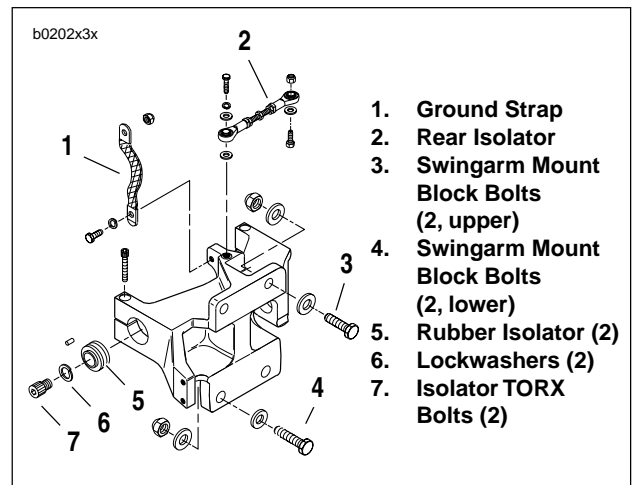
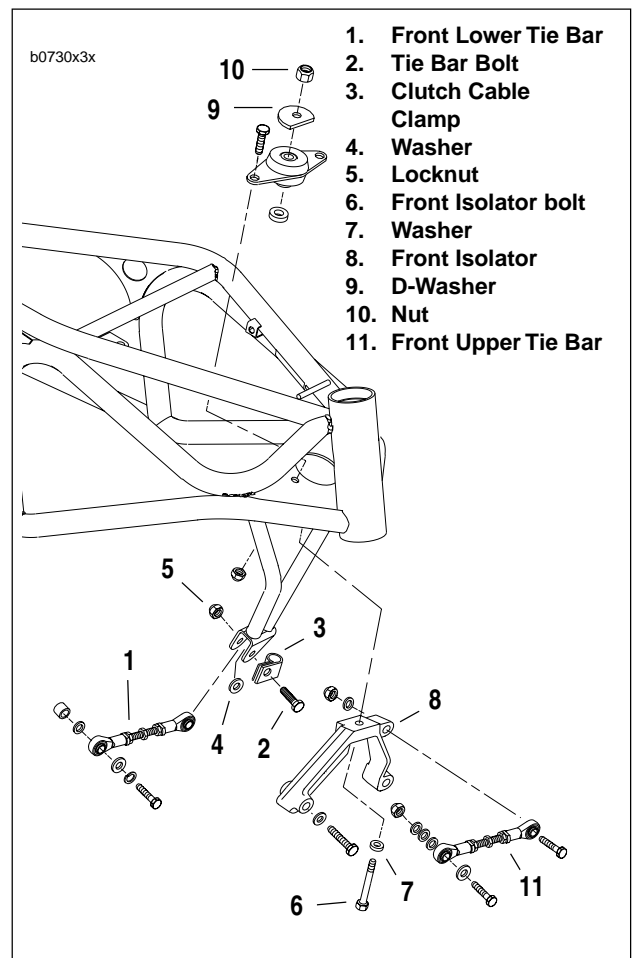

Figure 3-3. Rear Tie Bar Assembly
Figure 3-4. Front Tie Bar Assembly
16. See Figure 3-3. Remove engine ground strap (1) from swingarm mount block.
- b. See Figure 3-4. Detach front tie bar (1) and clutch cable clamp (3). Remove tie bar bolt (2), clutch cable clamp (3), washer (4) and locknut (5).
- c. Remove washer and nut to detach front upper tie bar (11) from isolator (8).
18. Detach front isolator (8). Remove front isolator bolt (6), nut (10), D-washer (9) and washer (7).
19. See Figure 3-3. Remove isolator bolt (7) and lockwasher (6) on each side.
20. Slowly raise floor hoist until rubber isolators (5) can be removed. Frame will rise while engine remains secured to lift by crating strap.
2. See Figure 3-3. If removed, attach swingarm mount block to engine. Install upper bolts (3), washers and locknuts finger tight. Install lower bolts (4), washers and locknuts finger tight. Tighten upper bolts to 41-45 ft-lbs (56-61 Nm) and lower bolts to 68-75 ft-lbs (92-102 Nm).
6. See Figure 3-4. Attach front isolator (8). Install front isolator mount with bolt (6), washers (7), D-washer (9) and locknut (10). Flat on D-washer faces steering neck (forward). Tighten bolt finger tight.
8. See Figure 3-3. Rear tie bar must be horizontal and below frame tab. Insert bolt upwards through washer, tie bar and frame. Fasten with nut. Tighten bolt to 30-33 ft-lbs (41-45 Nm).
9. See Figure 3-4. Place clutch cable clamp (3) on front tie bar bolt (2). Clamp should hold cable on primary cover side of motor. Insert bolt from front through frame and install washer (4). Continue through tie bar (1) and frame. Install locknut (5) and tighten to 30-33 ft-lbs (41-45 Nm).
10. Attach front upper tie bar (11). Insert bolt through tie bar front isolator, and frame. Secure with nut and washer. Tighten to 30-33 ft-lbs (41-45 Nm).
11. See Figure 3-3. Tighten the two rear isolator TORX bolts to 63-70 ft-lbs (85-95 Nm)
12. See Figure 3-4. Tighten front isolator bolt (6) to 100-110 ft-lbs (136-149 Nm).